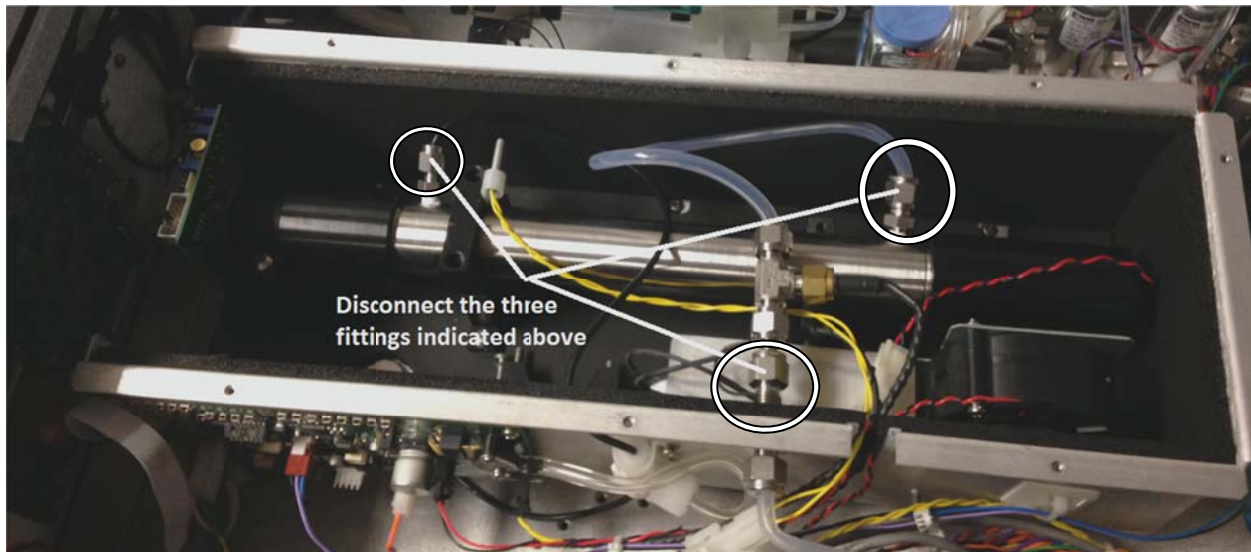

Figure 2
- Remove the top cover of the oven and open the pneumatic fittings shown in Figure 2.